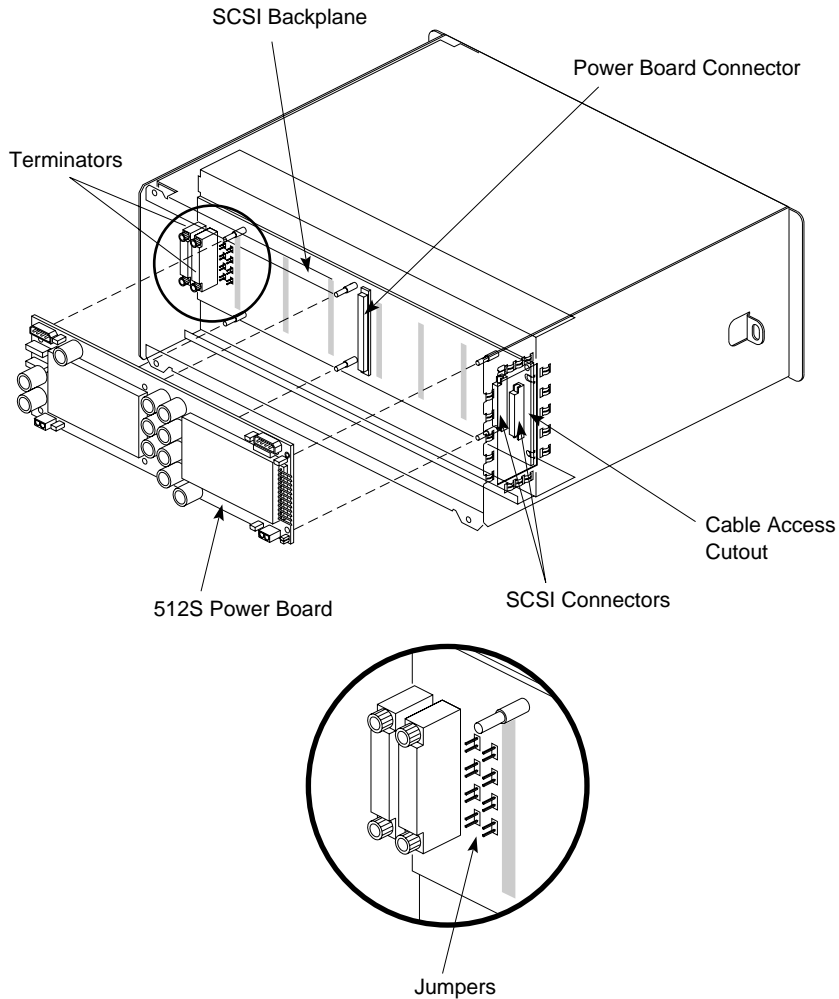

Figure 3-43 SCSIBox Backplane and 512S Power Board
2. Allow power to drain from the system for five (5) minutes.
4. Working at the left side of the cabinet (as seen from the front of the system), unfasten the 3-4 cables attached to the midplane connectors (see Figure 3-43).